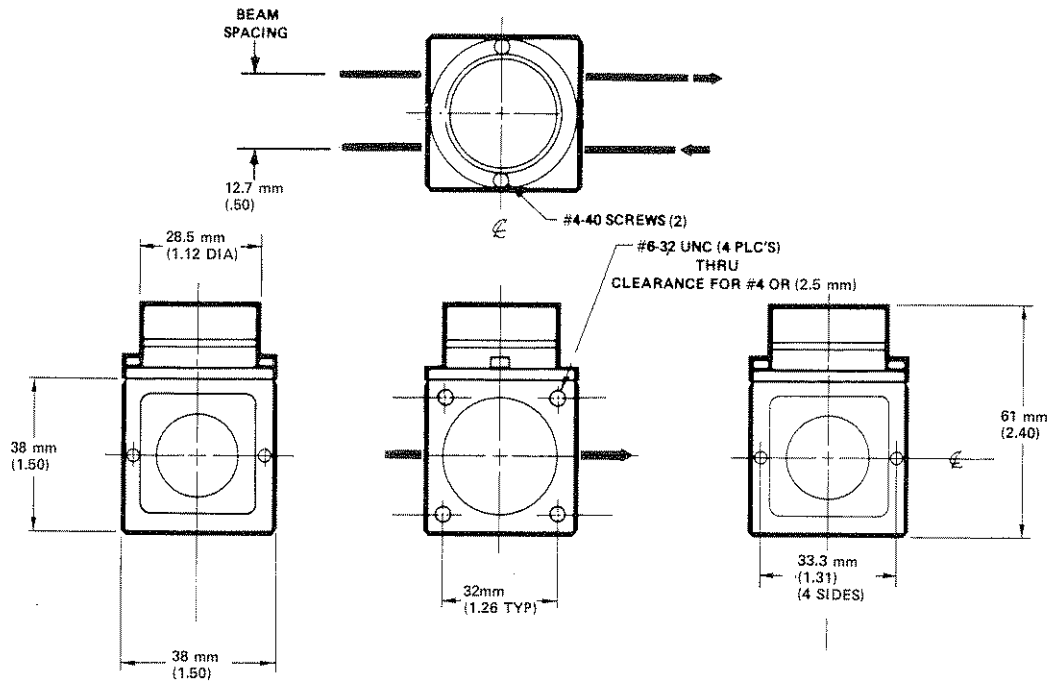

Figure 2-19. 10702A Linear Interferometer Specifications
- b. 10702A Linear Interferometer Specifications, see Figure 2-19.